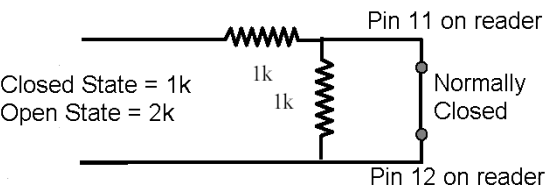

FIGURE 3. Normally Closed Wiring for Reader Tamper
- 5. For tamper wiring, connect Pins 11 and 12 to a normally closed supervised input, as shown in Figure 3.